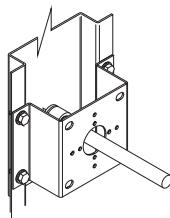

Figure 5 — Stand Off Bracket Position
fasten bracket to damper frame using (4) #14 Tek screws (by others). Make sure screws do not interfere with damper linkage or blade movement. Refer to Figure 5.